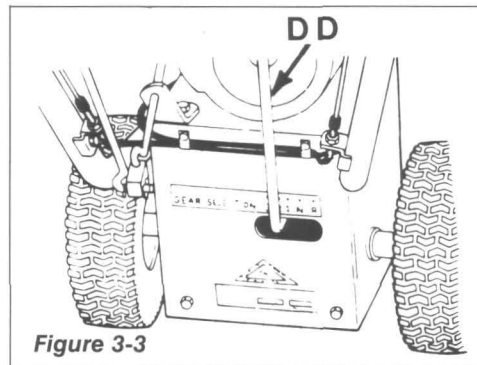

Figure 3-3
Shift Handle (Figure 3-3, Item DD)
2. Move the shift handle (Figure 3-3, Item D) to its Neutral position (N).